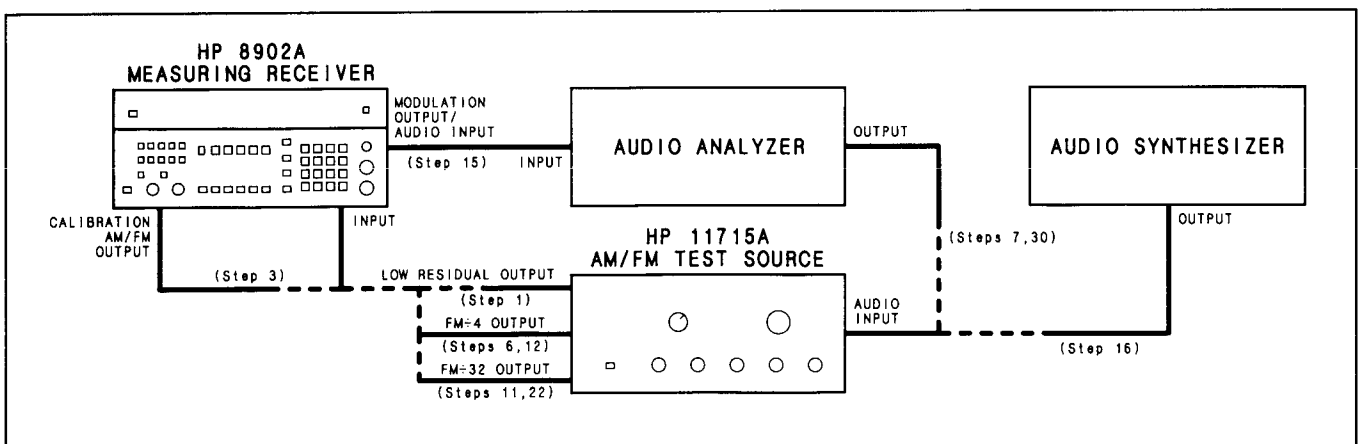

Figure 4-2. FM Performance Test Setup
1. On the AM/FM test source; set the test mode to residual FM. Connect its low-residual (560 MHz) output to the Measuring Receiver's INPUT. (See Figure 4-2.)
3. Connect the Measuring Receiver's CALIBRATE AM/FM OUTPUT to the INPUT. (See Figure 4-2.)
- On the AM/FM test source, set the test mode to FM. Connect its FM÷4 output to the Measuring Receiver's INPUT. (See Figure 4-2.)
- Set the audio analyzer's oscillator to 10 kHz at 1V. Connect its output to the audio input of the AM/FM test source. (See Figure 4-2.)
- Connect the FM÷32 output of the AM/FM test source to the Measuring Receiver's INPUT without disturbing the AM/FM test source's controls. (See Figure 4-2.) Multiply the displayed ratio on the Measuring Receiver by the calibration factor of step 4. (For example, if the display reads 12.52% REL and the calibration factor of step 4 is 100.4%, the result is $12.52 \times 100.4 = 12.57\%$ REL.) The result should be between 12.35 and 12.65% REL.
- Connect the FM÷4 output of the AM/FM test source to the Measuring Receiver's INPUT. (See Figure 4-2.)
- Connect the audio analyzer's input to the Measuring Receiver's **MODULATION OUTPUT/AUDIO INPUT**. (See Figure 4-2.) Set the audio analyzer to measure the distortion on the 100 kHz signal at the **MODULATION OUTPUT/AUDIO INPUT** (all audio analyzer filters should be off). The distortion should be 0.1% or less (−60 dB or less).
- Set the audio synthesizer to 10 kHz at +5 dBm. Connect its output to the audio input of the AM/FM test source. (See Figure 4-2.) Fine adjust the level for a Measuring Receiver display of 100 kHz times the calibration factor of step 5. (For example, if the calibration factor of step 5 is 100.4%, set the level for a display of 100.4 kHz.)
- Connect the FM÷32 output of the AM/FM test source to the Measuring Receiver's INPUT. (See Figure 4-2.)
30. Set the audio analyzer's oscillator to 10 kHz at 4V. Connect its output to the audio input of the AM/FM test source. (See Figure 4-2.) Fine adjust the oscillator level for a Measuring Receiver display of 10 kHz peak deviation.